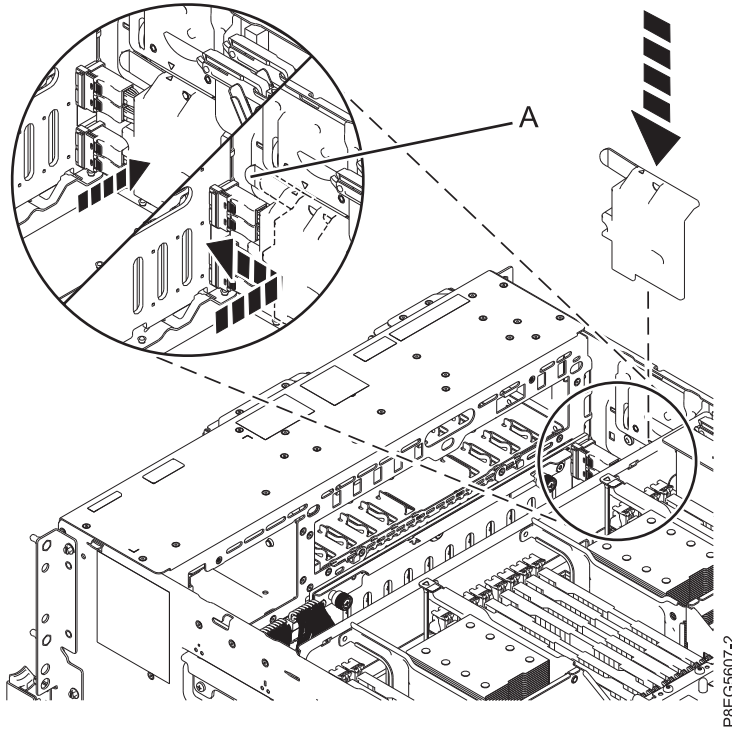

Figure 56. Replacing the SAS cable cover
38. Replace the SAS cable cover. Place the cover slots onto the pins on the side of the chassis. The triangle symbol on the SAS cable cover lines up with the triangle symbol on the side of the chassis when the cover slots and pins are aligned correctly. Push the cover forward toward the front of the system until the handle latches in place. See Figure 56 on page 51.